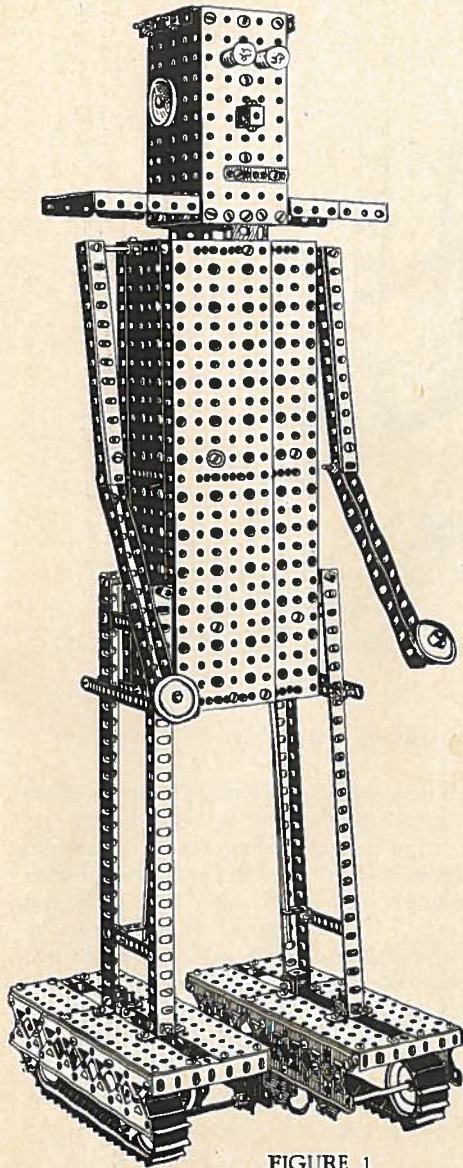
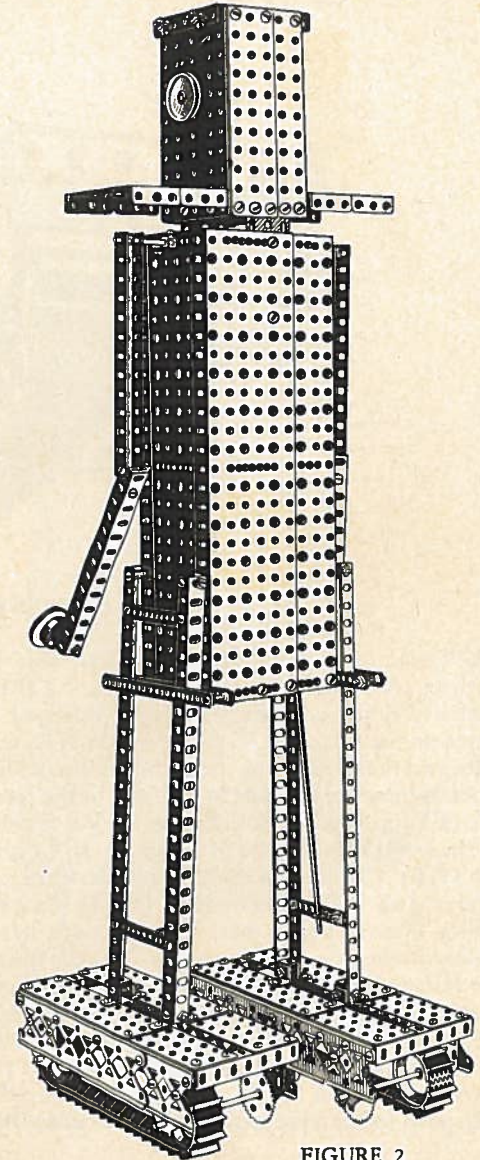
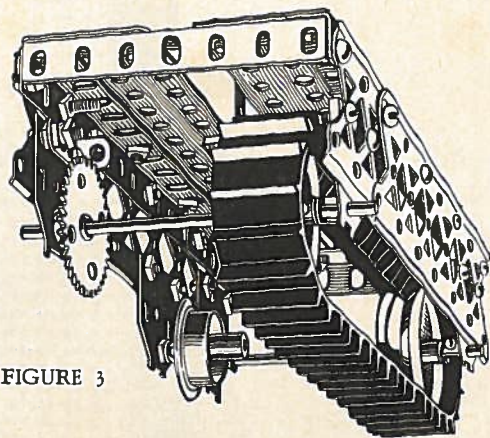

FIGURE 1
FIGURE 2
FIGURE 3
Figure 1 shows the front view of the completed model. Figure 2 shows the rear view of the model. Study these, as well as all the other views very carefully.
The first sub-assembly to build is shown in Figure 3.
The frame for the foot is built with an (MO) 3" angle girder on each end with an (MO) overlapping three holes of a (BE) 6" angle girder on each side. Fastened to the side pieces are two overlapped (EY) 6" channel girders. Fastened on top of the ends and top of the sides are 4 (MF) 1" x 5" base plates. Attached to the inside of the channel girders (EY) are 5 (MV) flat car trucks. Four of these are fastened to each end of the foot, in the middle row of holes of the (EY) girder. The fifth flat car truck is fastened at the fourth and fifth holes in the lower row of holes of the inside (EY) girder. The axles used in the foot are (AT) 4" axles. On the axle in back of the foot is attached a (CJ) 36 tooth gear and an (NX) tread pulley. On the front axle is attached an (NX) tread pulley. Note in Fig. 1, there is a right and a left foot. The position of the tread pulley on the axle determines this. To keep the axles from shifting, P37 collars are fastened to the axles inside the (MV) flat car trucks. A flanged wheel (Z) is fastened to the inside of middle car truck on side girder with an S57 screw, P37 collar and a P15 coupling. The foot is prevented from moving backwards by use of a ratchet. This is made by fastening a pawl (O) to the (EY) girder at location shown in Fig. 3. As the foot is moved forward, the pawl is released. The pawl locks in the teeth of the gear when the foot tends to move backward.
The motor assembly is fastened to the inside front of model in location shown in Figure 5. The 12 inch axle rods are fastened in P37 collars on (BT) discs on shaft (D) of motor and pass through holes in (CH) angles. Refer back to Figures 1 and 2 which show location of top of leg fastening to body. The 12 inch axle then passes through (O) pawl on (H) strip on leg and foot assembly. This shaft must be
The shoulders are made of 2 (MC) 1" x 2½" base plates fastened together with (G) strips. The shoulders are fastened to the head with (CH) angles as shown in Figure 7. Head is mounted to body in position as shown in Figures 1 and 2.